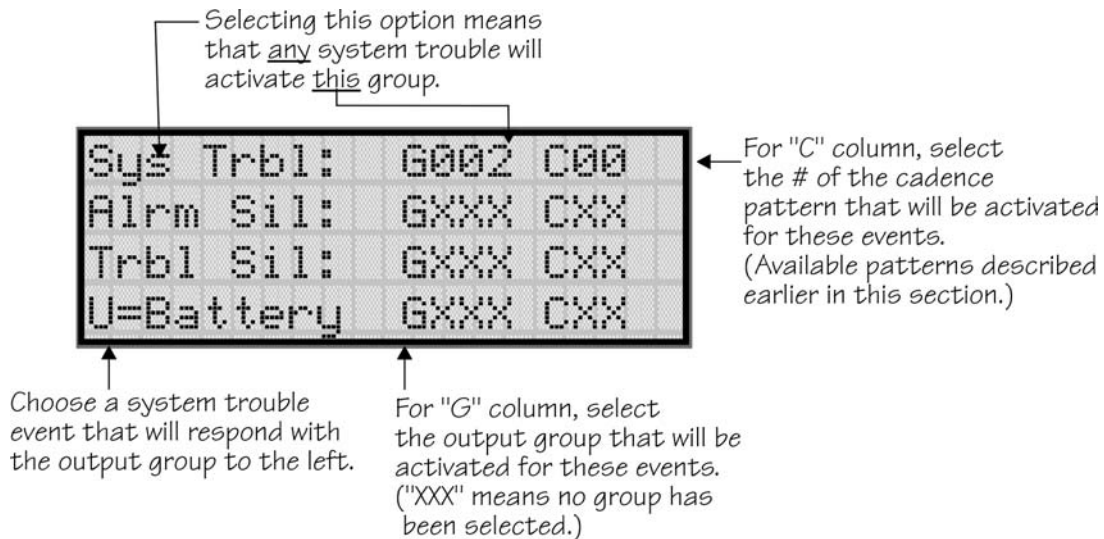

Figure 7-14 System Trouble Event Mapping Example
- Press **1** for Trouble Events. A screen similar to the one in Figure 7-14 will display. Select a group and a cadence pattern for each event as needed for your application. The U: field is for a user-specified trouble condition. You can program an output group and cadence pattern for any of the following events: